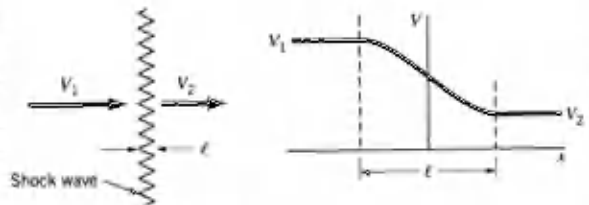

FIGURE P4.4R
4.4R (Acceleration) A shock wave is a very thin layer (thickness =  $\ell$ ) in a high-speed (supersonic) gas flow across which the flow properties (velocity, density, pressure, etc.) change from state (1) to state (2) as shown in Fig. P4.4R. If  $V_1 = 1800$  fps,  $V_2 = 700$  fps, and  $\ell = 10^{-4}$  in., estimate the average deceleration of the gas as it flows across the shock wave. How many  $g$ 's deceleration does this represent?